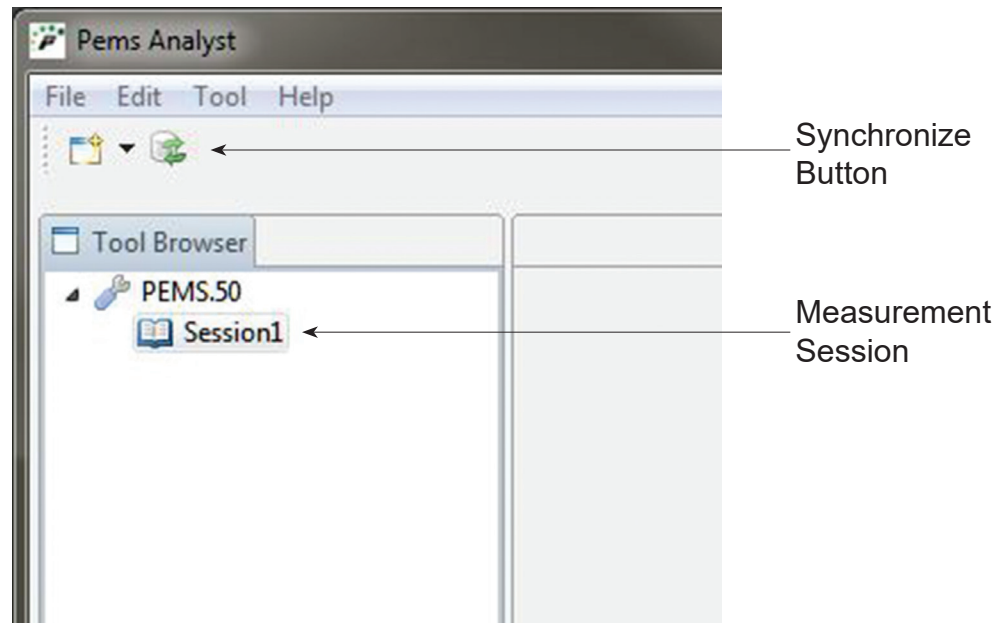

Figure 4-4 - Select Session to Export
- Tool Browser: Right-click the session to export data from in the Tool Browser. See fig. 4-4
2. Before choosing one of these options to export the data, press the Synchronize Button to ensure the sessions are in sync. See fig. 4-4